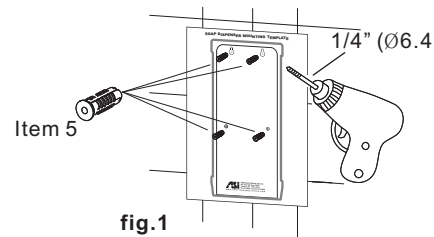

fig.1
2. Drill four (4) holes at marked locations 1/4" diameter (Ø6.4).
3. Insert four (4) plastic anchors (supplied) into drilled holes; remove template (fig. 1).